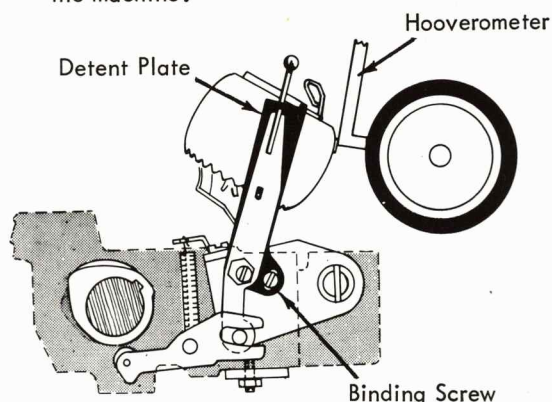

FIGURE 97.3 Powered Travel (Late)
- a. **Powered Travel** - With the cycle shaft latched at rest and the impression control lever set at position 5 and the copy control lever set at 5 (all the way back), loosen the binding screw and move the detent plate forward or backward until a clearance of .250" exists between the platen and the center of the "home" character (Fig. 97.3). This clearance may be measured with the foot of the Hooverometer which is approximately .250". When measuring the adjustment, remove the tilt ring play by depressing the typehead lightly toward the front of the machine.